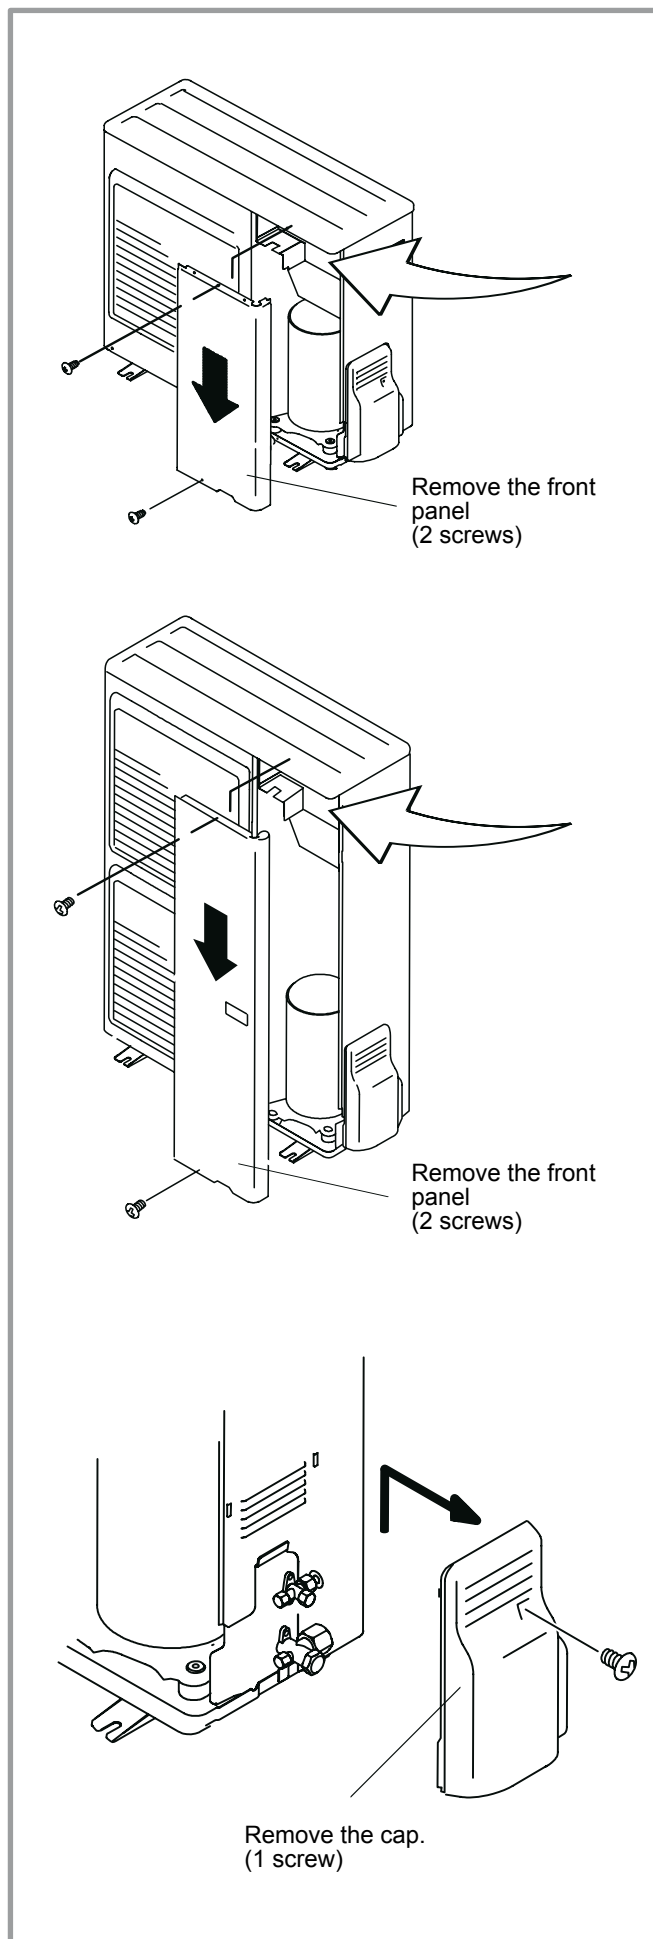

figure 27 - Access to outdoor unit's terminal block (Model Evolution 10, Evolution 13, Evolution 16)
- Remove the cap (figure 27, page 24).